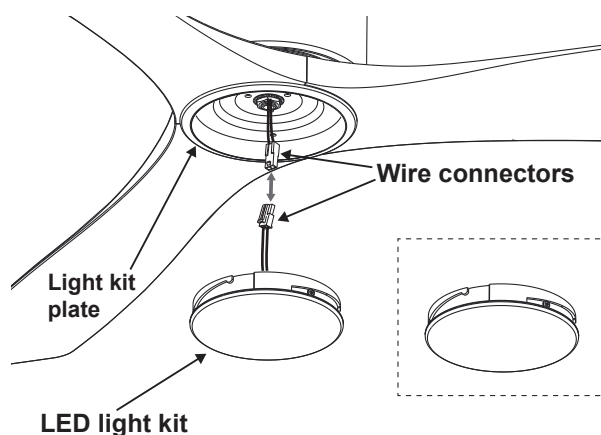

Figure 14
Step 3. Connect the light lead wire, attach the LED light kit onto light kit plate by turning clockwise until snug. (Fig. 14)